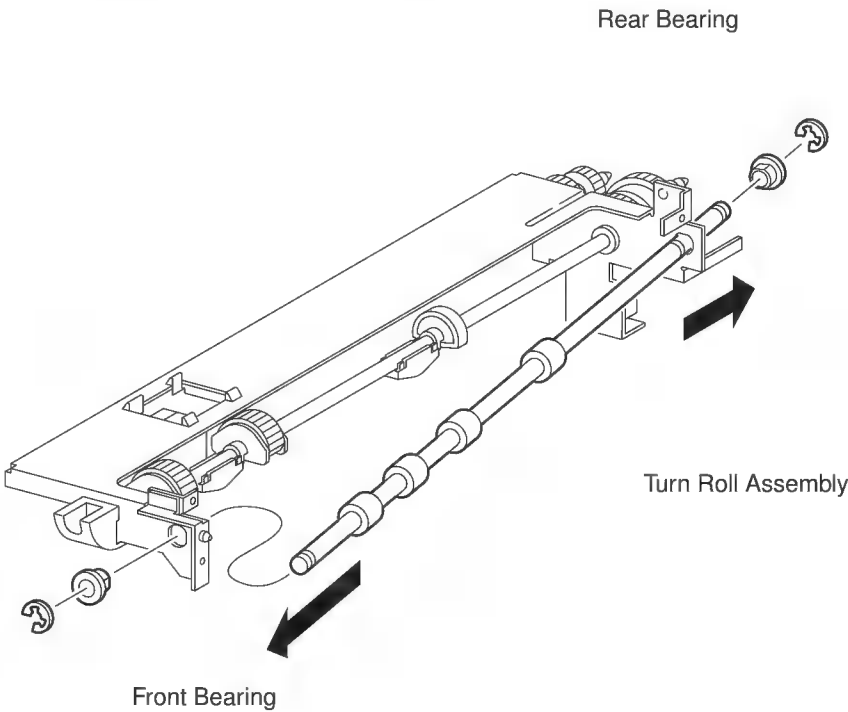

Figure 2
5. Remove the E ring securing the rear of the Turn Roll shaft to the rear bearing (Figure 2).